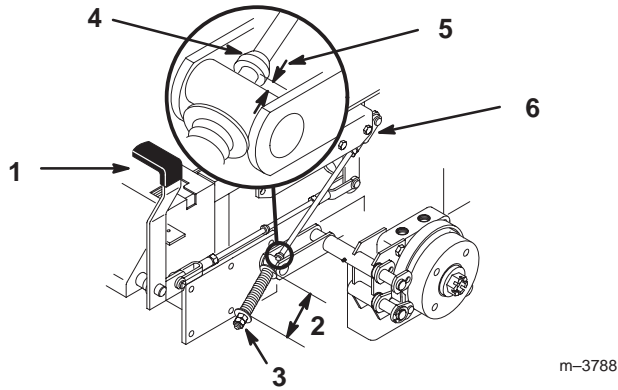

Figure 69
2. Measure the length of the spring. The measurement should be 2-3/4 inch (70 mm) between the washers (Fig. 69).
3. If an adjustment is necessary, loosen the jam nut below the spring and tighten the nut directly below the yoke (Fig. 69). Turn the nut until the correct measurement is obtained. Tighten the two nuts together and repeat on the opposite side of the unit.
6. Measure the distance between the trunnion roller and the collar on the brake rod. The measurement should be 3/16–1/4 inch (5–7 mm) (Fig. 69).
7. If an adjustment is necessary, loosen the jam nut directly below the yoke. Turn the bottom rod until the correct measurement is obtained (Fig. 69). Tighten the jam nut at the yoke.